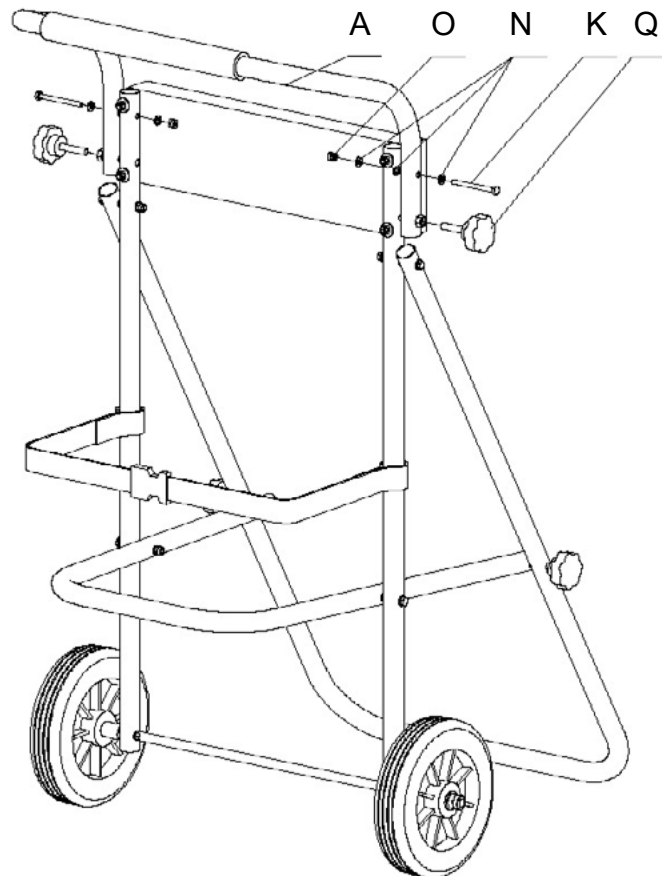

FIG. 7.
Step 7. Fix the Handle Tube (A) on Vertical Straight Tube (E) with M6*65 Bolt (K), 6 * 12 Flat Washer (N) and M6 Lock Nut (O). Screw the Turn Knob M8*40 (Q) into Handle Tube (A) and connect to Vertical Straight Tube (E). SEE FIG. 7.